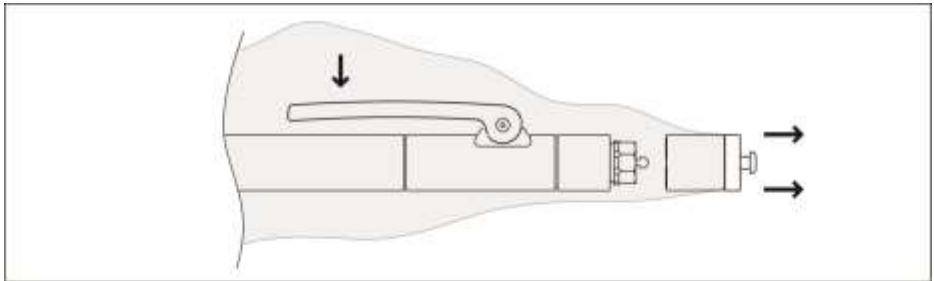

Figure 14
(N) Remove the sleeve from the actuator by pulling the coupling part off while pressing the handle on the actuator fully. (see Figure 14)